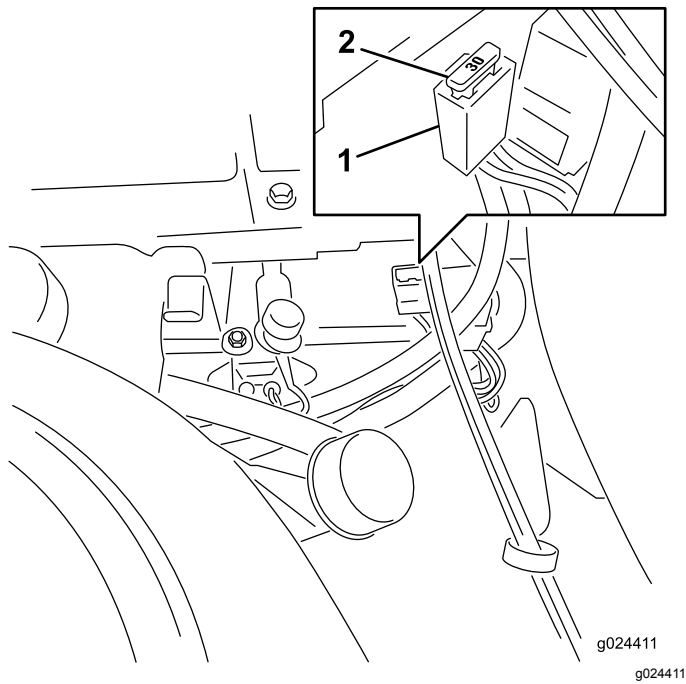

Figure 46
Note: The fuses are located on right hand console next to the seat (Figure 46).
1. To replace the main fuse, grasp the fuse and pull it straight and away from the fuse block (Figure 46).
4. Align a new fuse with the slot in the fuse block (Figure 46).
5. Push the fuse into the fuse block until the fuse is seated (Figure 46).